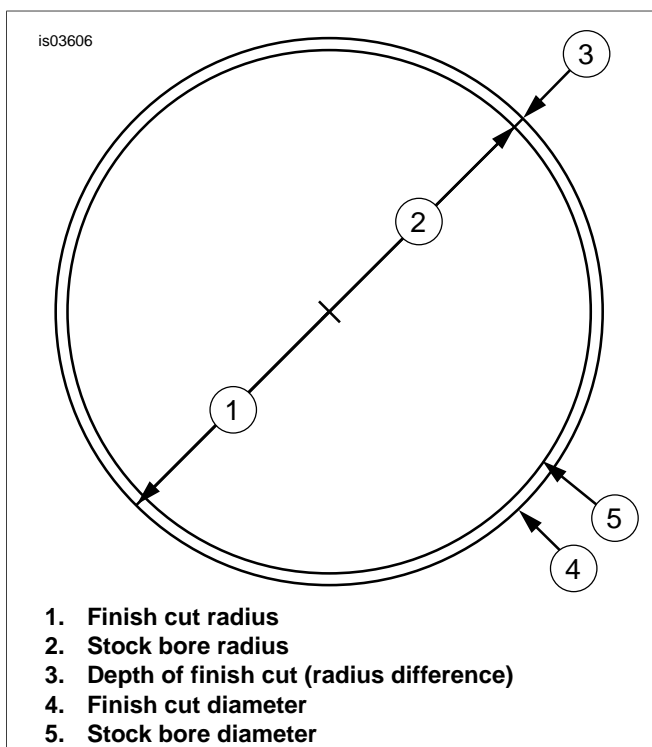

Figure 6. Calculate Tool Bit Settings
- c. See Figure 6. See the Instruction Sheet for the cylinder kit being installed to determine final spigot bore diameter. Subtract the stock spigot bore diameter (5) from the final spigot bore diameter (4) to determine the diameter difference. Divide by two to determine radius difference (3).